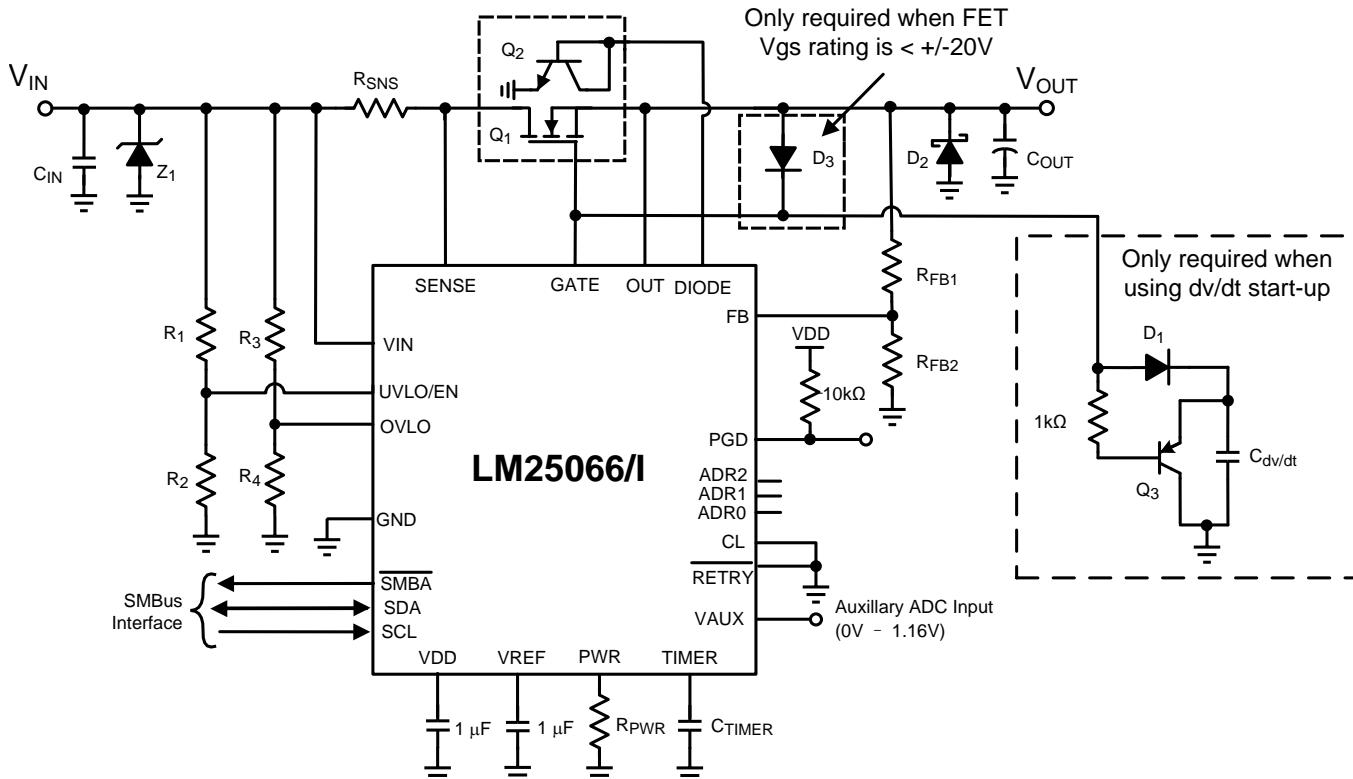

Figure 38. Typical Application Circuit
- Otherwise, a diode (D3 in Figure 38) can be used to protect MOSFETs with a ± 12 V VGS rating.